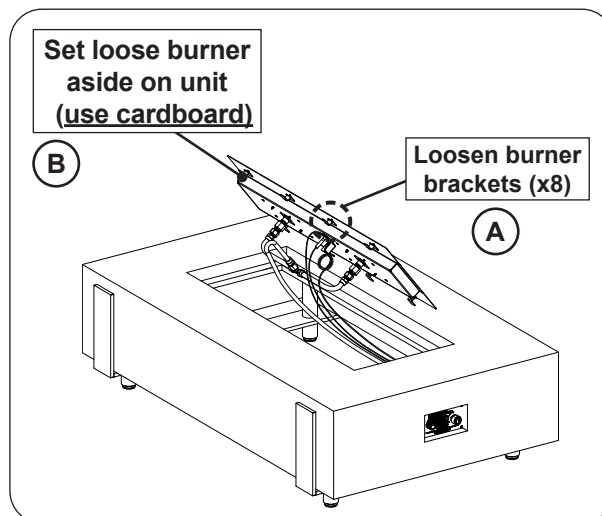

Fig. 32-2 Gain access to interior of unit
3. Use a  $\frac{5}{16}$ " nut driver to loosen the 8 screws found on the burner assembly (see Fig. 32-2, A).
4. Carefully lift out the burner just enough to set it off to the side (see Fig. 32-2, B).